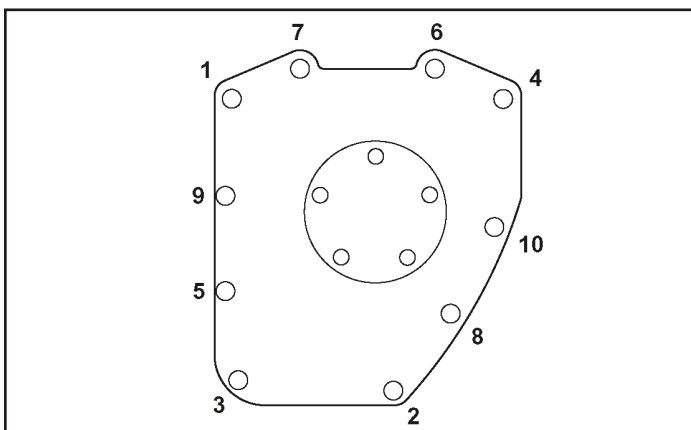

Figure 9
- 33.** Use a new gasket and install cam cover. Tighten cover bolts to 100 in-lbs. in the sequence shown in **Figure 9**.